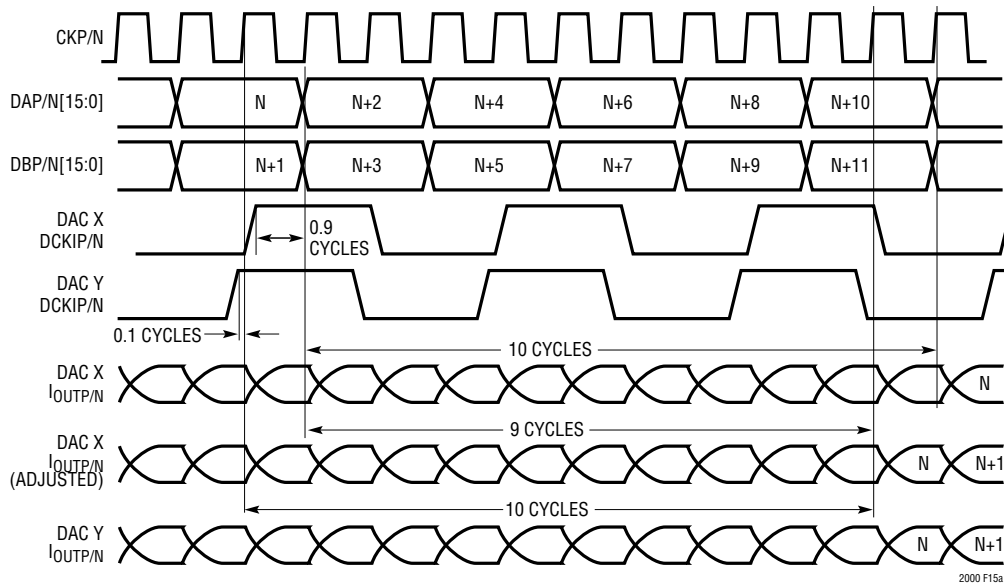

Figure 15a. Sample Waveforms — Synchronizing Multiple LTC2000s in Dual Port Mode
Note that in this example a small timing skew between the two data signals at the DCKIP/N pins of DACs X and Y has caused the DCKIP/N rising edges to arrive on opposite sides of a DAC sample clock (CKP/N) rising edge, and thus within different CKP/N clock cycles. As a result the default behavior is for the output of DAC Y to update with sample N one cycle earlier than the output of DAC X. It is possible to correct this misalignment and synchronize DACs X and Y by adjusting the clock synchronizer settings to subtract one cycle of latency from DAC X, as shown in the adjusted waveform at the bottom of Figure 15a. See the Clock Synchronizer section and Figure 7 for more details on the operation of the clock synchronizer.
Once all the DAC sample clocks and LVDS data clocks are aligned, determine whether any DACs are being updated one cycle late (such as DAC X in Figure 15a) by determining whether DCKIP/N is arriving at the DACs within the same CKP/N clock cycle. To do this in dual-port mode, first use the phase comparator outputs SYNC_PH and Table 12 to determine the delay from the DCKIP/N rising edge to the next CKP/N rising edge for each DAC (measured in sample clock cycles).
both DACs within the same sample clock cycle, the difference in DCKIP/N to CKP/N delays indicated by SYNC_PH will equal the actual DCKIP/N timing mismatch, and thus will be less than 0.4 cycles. If DCKIP/N arrives at the DACs within different cycles, as in Figure 15a, the difference in the delays indicated by SYNC_PH will equal 1 cycle minus the actual DCKIP/N timing mismatch, and thus will be greater than 0.4 cycles. Thus if the difference between the delays indicated by SYNC_PH is greater than 0.4 cycles, the DCKIP/N rising edges are arriving in different sample clock cycles.
For the example in Figure 15a, we might read 0x25 for SYNC_PH on DAC X and 0x52 on DAC Y. Table 12 tells us that the DCKIP/N to CKP/N delay is greater than 0.8 cycles for DAC X and less than 0.2 cycles for DAC Y, and thus the difference between them is at least 0.6 cycles. We conclude that the DCKIP/N rising edge of DAC X must fall within a later sample clock cycle than that of DAC Y, and thus that DAC X is being updated one cycle later than DAC Y.
In this example, reading register 0x06 of DAC X shows SYNC_PH = 0x25 and that the SYNC_PS setting needs to change from the default (10) to the desired adjusted value (00), subtracting one cycle from the latency of DAC X (refer to Table 12). Write 0x04 to register 0x05 of DAC X to set SYNC_MSYN = 1 and SYNC_PS = 00. The outputs of DAC X should now align with DAC Y as shown in Figure 15a. See Table 6 for details regarding the synchronizer registers 0x05 and 0x06. Sample verilog code implementing the synchronization of multiple LTC2000s using Tables 12 and 13 can be found at: